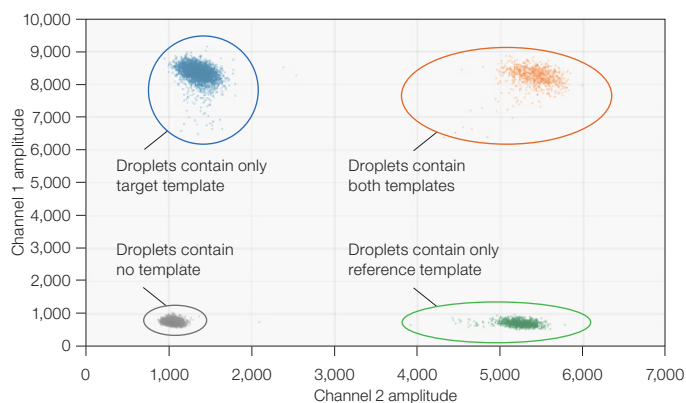

Fig. 1. Two-dimensional scatter plot from a QX200 ddPCR System.
- Optimum annealing temperature range is determined based on the separation between 4 clusters (Figure 1)